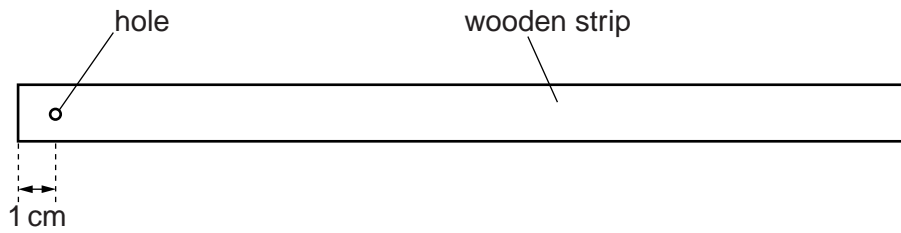

Fig. 2.2
- 3 Drill a hole through the wooden strip approximately 1 cm from one end, as shown in Fig. 2.2. The diameter of the hole should be slightly larger than the diameter of the nail.